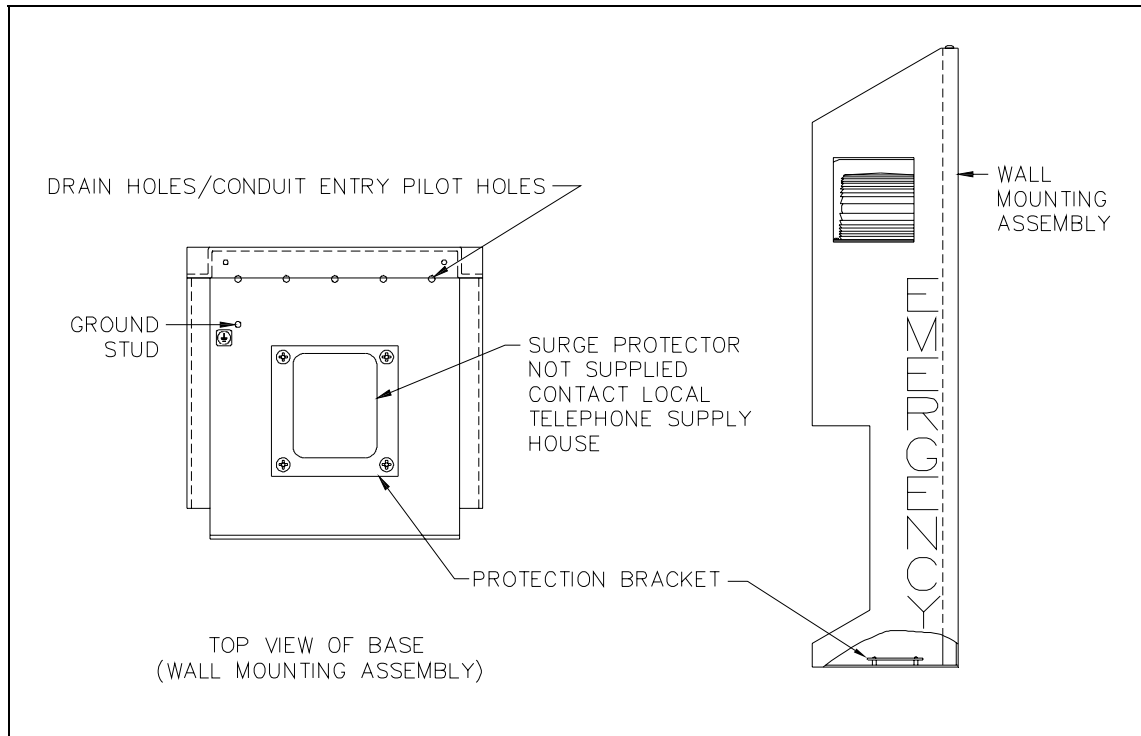

Figure 3. Conduit/Surge Protection Locations
3. Enlarge the conduit entry pilot hole(s) to be used for the stanchion power cables. See Figure 3.
3. Install a telephone line surge suppressor (sold separately) on the protection bracket on the bottom of the stanchion wall-mounting assembly. See Figure 3.